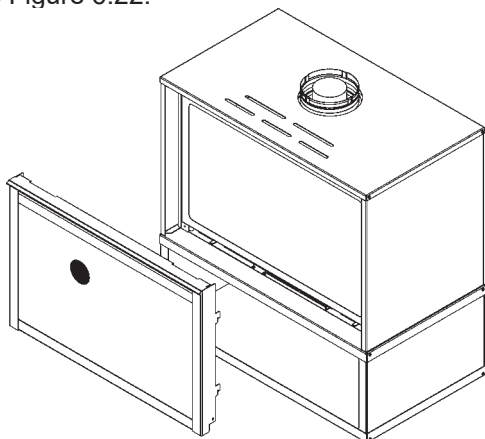

Figure 6.22
23. Install the INFIT-30-BK front on the insert. Adjust the insert from side to side and front to back to make sure the inside fit front is level prior to attaching the venting. See Figure 6.22.